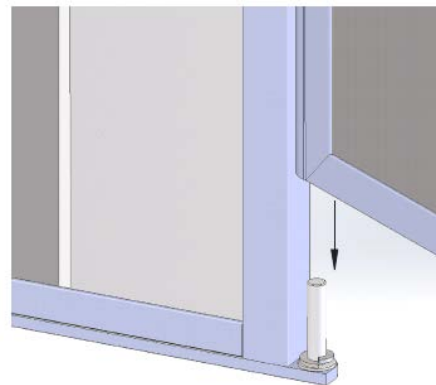

Figure 9
3. Set one of the wing assemblies over the pin and split washer. **(See Figure 9)**